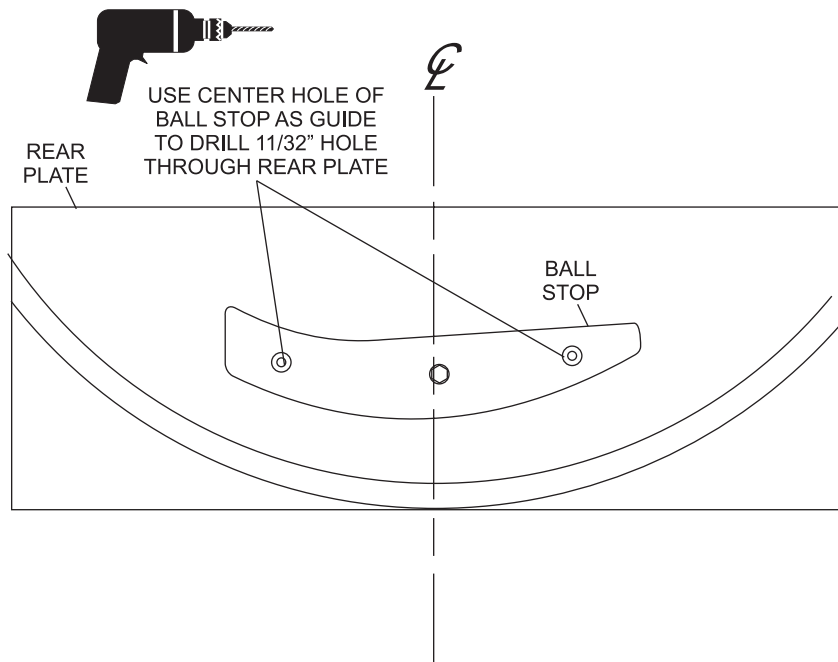

*Figure 3*
4. Using the ball stop as a guide, drill an 11/32" hole in the rear plate through the ball stop's center hole. Refer to *Figure 3*.